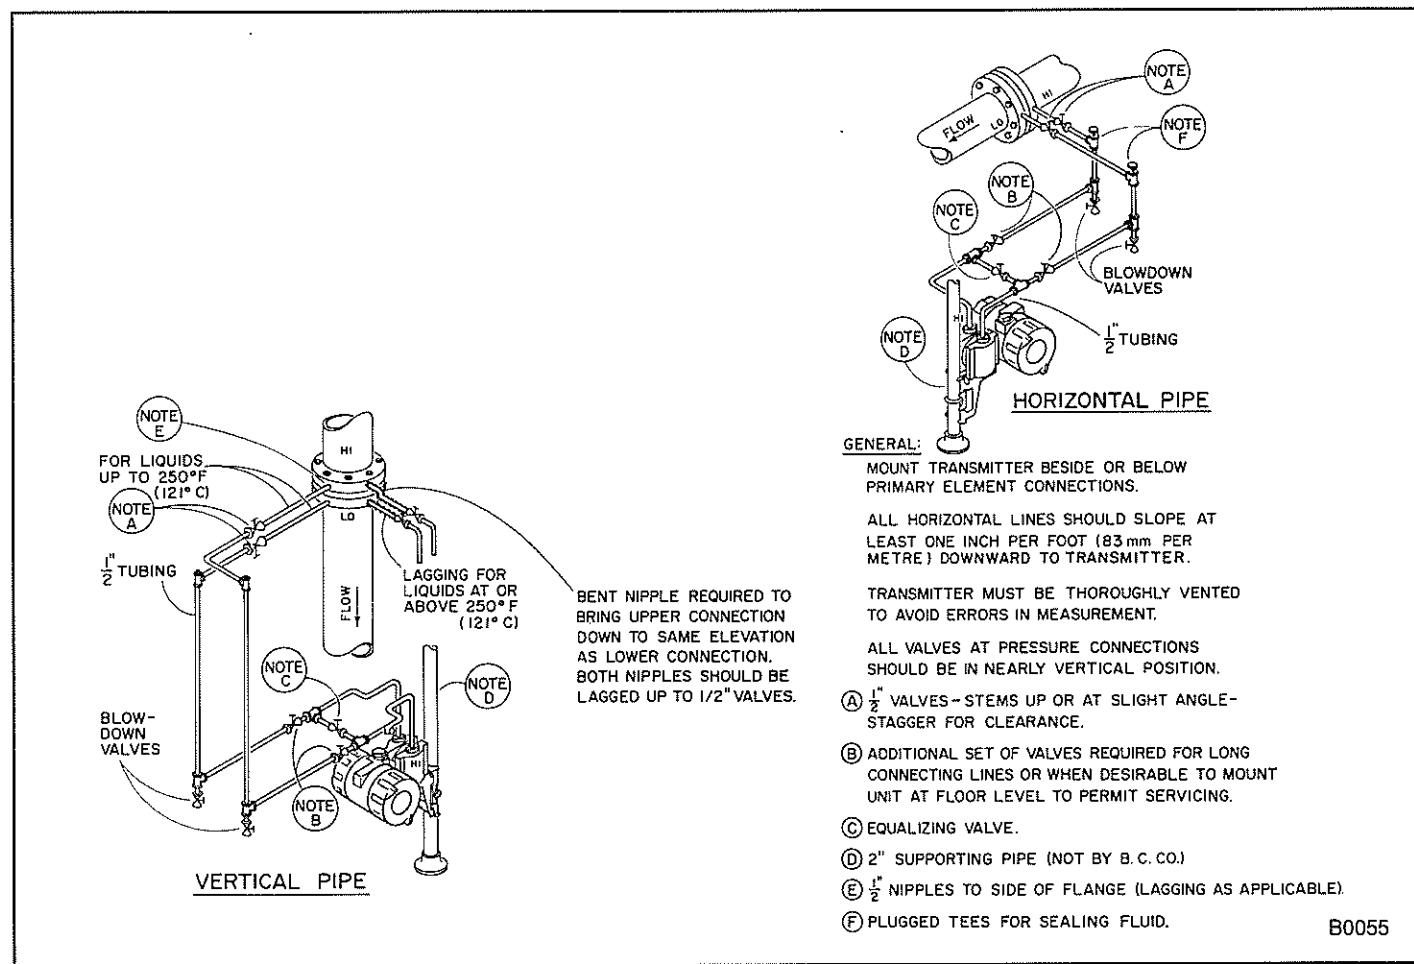

FIGURE 12 – Connecting Piping for Liquid Measurement
The connecting piping shown in Figures 12, 13, 14, 16, 18, and 20 are typical piping arrangements only. They are intended as generalized guides, and may not necessarily reflect the exact configuration required for the particular service.
1. Primary element taps should be made to side of flange to avoid sediment deposits (Figure 12).